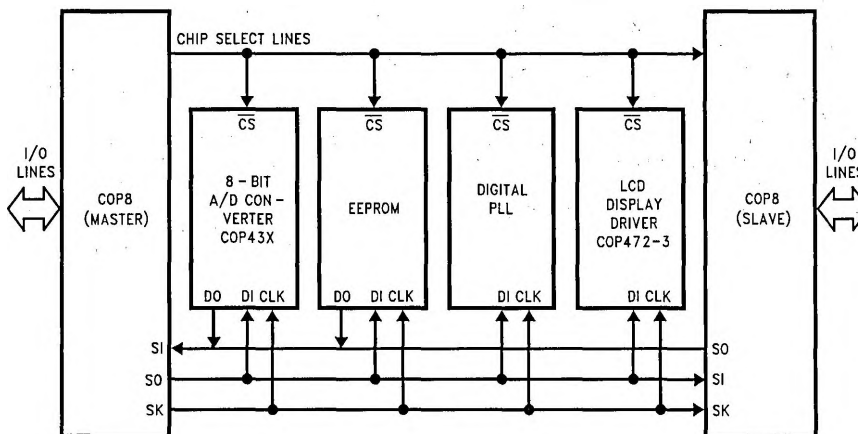

FIGURE 7. MICROWIRE/PLUS Application
Setting the BUSY bit in the PSW register causes the MICROWIRE/PLUS arrangement to start shifting the data. It gets reset when eight data bits have been shifted. The user may reset the BUSY bit by software to allow less than 8 bits to shift. The device may enter the MICROWIRE/PLUS mode either as a Master or as a Slave. Figure 7 shows how two device microcontrollers and several peripherals may be interconnected using the MICROWIRE/PLUS arrangement.
In the MICROWIRE/PLUS Master mode of operation the shift clock (SK) is generated internally by the device. The MICROWIRE/PLUS Master always initiates all data exchanges (Figure 7). The MSEL bit in the CNTRL register must be set to enable the SO and SK functions on the G Port. The SO and SK pins must also be selected as outputs by setting appropriate bits in the Port G configuration register. Table IV summarizes the bit settings required for Master mode of operation.